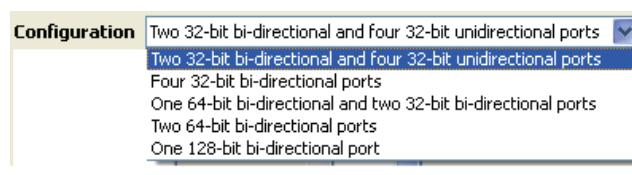

Figure 1-24: Selecting a Port Configuration
7. Select the desired port configuration from the Configuration Selection drop-down menu as shown in Figure 1-24. The port selection table is updated based on the chosen configuration.